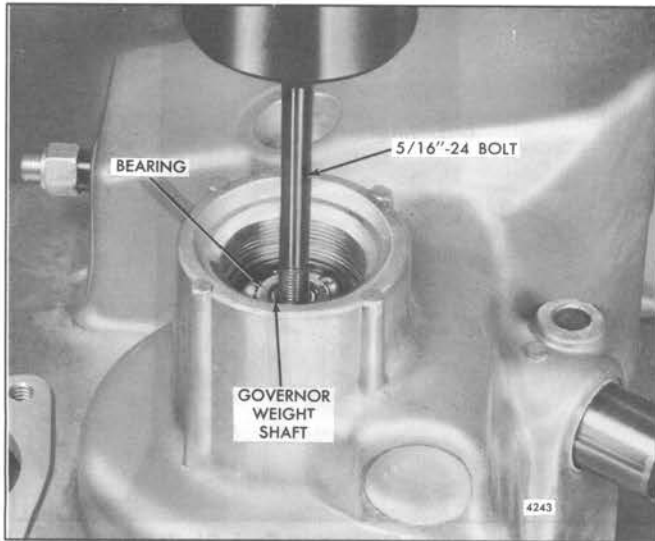

Fig. 11 - Removing Governor Weight Shaft Assembly from Governor Housing
- d. Thread a 5/16"-24 x 3" bolt into the bearing retaining bolt hole. Support the governor housing on the bed of an arbor press and press the governor weight shaft from the bearing (Fig. 11).